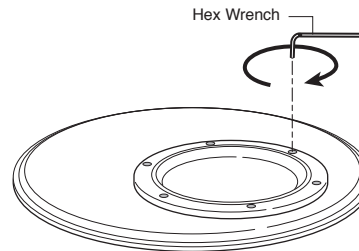

Fig. 15
5. Turn the Bass Drum Head over and tighten the bolts securely using the provided Hex Wrench. Remove the Tape from the Tru-Trac Bass Drumhead (Fig 15).